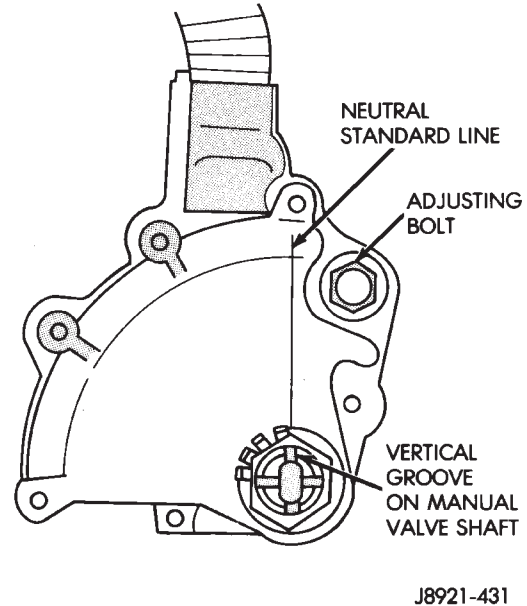

Fig. 44 Park/Neutral Position Switch Adjustment
- (5) Verify that transmission is in Neutral.
- (6) Rotate switch to align neutral standard line with vertical groove on manual valve shaft (Fig. 44).
- (7) Align switch standard line with groove or flat on manual valve shaft.
- (8) Tighten switch adjusting bolt to 13 N·m (9 ft. lbs.) torque.
- (9) Bend at least two washer lock tabs over switch attaching nut to secure it.